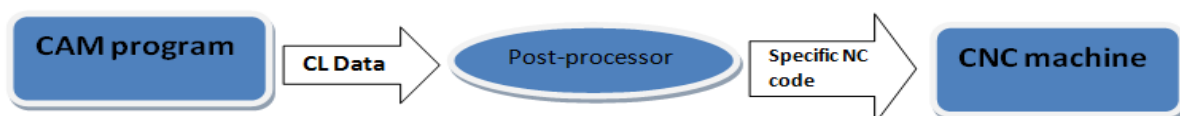

Figure 2.5 Illustration on the process between CAM and CNC machine
When the NC code is generated by the CAM program it is usually an automatically programmed tools (APT) code, a cutter location data (CL) and also international standard organization (ISO) code. These data is general and does not include parameters for the CNC machines control system. To convert this data to specific instructions for the machine there is need for a post-processor. Different machines may have different specific instruction for their control system and because of that the post-processor must be tailored for the specific machine [4]. The post-processor is the direct link between the CAM system and the CNC machine and therefore a vital part in machining which is illustrated in figure 2.5.